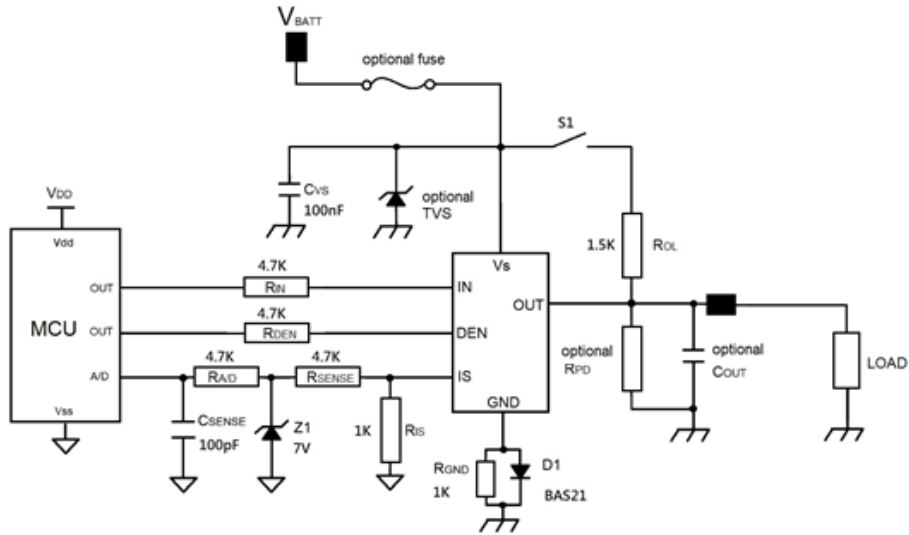

Figure 23. Single Channel Application Circuit
Examples of the open load detection at "OFF" for a single output and for multiple device or outputs are shown in Figure 23 and 24. A transistor switch S1 in between the  $R_{OL}$  and the battery can be used to turn off the detecting current when not in detecting period.
4. The above application circuits, Figure 23 and 24, are for reference only. They must be modified to meet the different requirements of real applications.
5. A 1µF capacitor can be placed in parallel with the RGNS of Figure 23 and 24 to eliminate the noise on RGND.